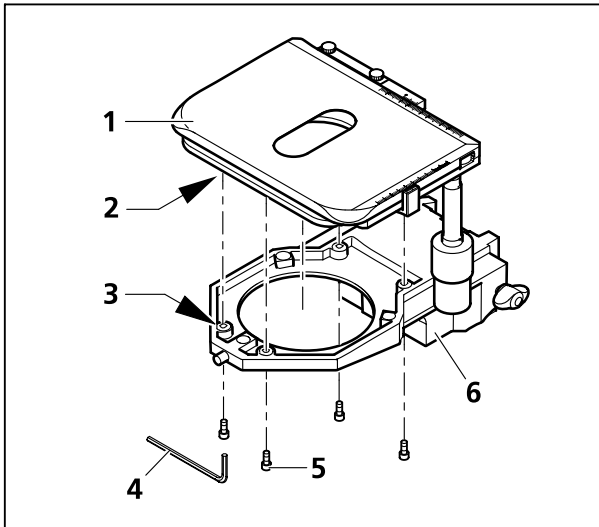

Fig. 3-10 Changing the stable mechanical stage
(1) Stable mechanical stage 75x50 R
- Remove the four mounting screws (Fig. 3-10/5) on the stage carrier (Fig. 3-10/6) with the aid of the ball head screwdriver SW 3 (Fig. 3-10/4).
- Pull off the stage (Fig. 3-10/1) from the stage carrier. This is easier if you turn the stage and its carrier over.
- Put the stage (Fig. 3-10/1) onto the stage carrier (Fig. 3-10/6) so that the threaded holes in the bottom of the stage (Fig. 3-10/2) are on top of the corresponding holes in the stage carrier (Fig. 3-10/3).
- Insert the four mounting screws (Fig. 3-10/5) from below through the holes in the stage carrier and screw them into the bottom of the stage.